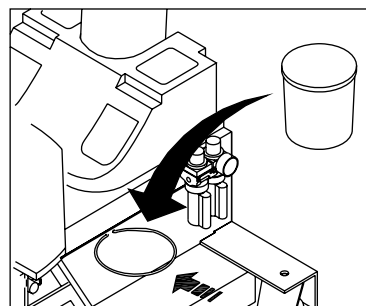

Figure 1-2
- Lubrication Tub Ring - This ring hold the lubrication tub. Once the machine has been installed, the ring is fitted on the machine (shown in figure 1-2).